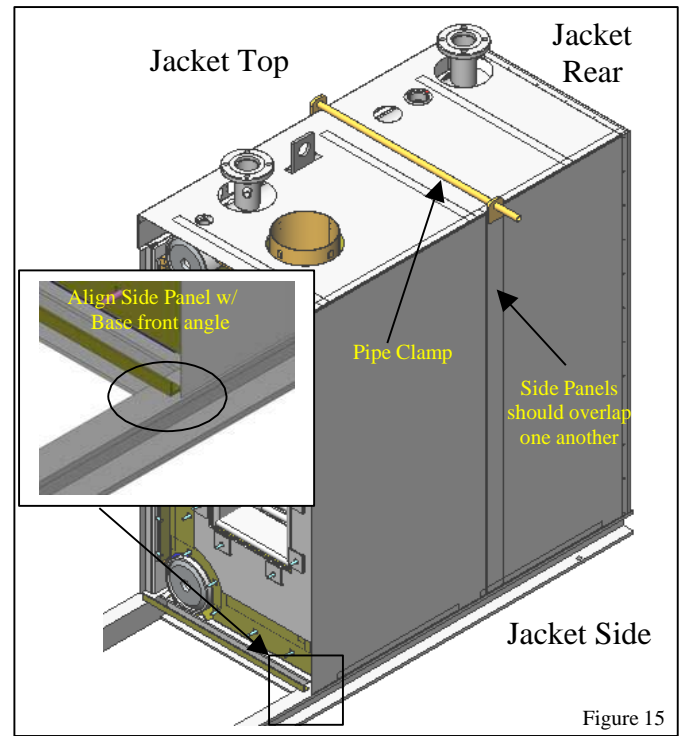

Figure 15
- 4.2 Place Jacket Side panel/panels upon the edge of the boiler base assembly. Position the flange of the Jacket Side to overlay Jacket Top. Align Jacket Side with the base assembly Jacket Front and Rear angles. See Figure 14. If boiler uses multiple Side panels, the panels should overlap one another. Use a pipe clamp to hold the top of the Side panel in position. See figure 15. Once alignment is complete, screw the bottom of the Side panel into the base assembly Jacket Side angle.
4.5 Make sure again that jacket Front and Rear is level. Screw in the bottom of jacket Front and Rear about every 8". Next, screw along the rest of the top of jacket Front and Rear. Finally, screw in the top of jacket Side Panel. See figure 15.